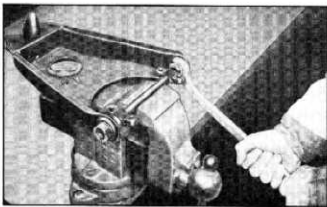

Fig. 17—Loosening Lower Control Arm Shaft Bushing Lock Nut
1. Place lower control arm shaft in a bench vise (fig. 17) and loosen lower control arm shaft bushing lock nuts.